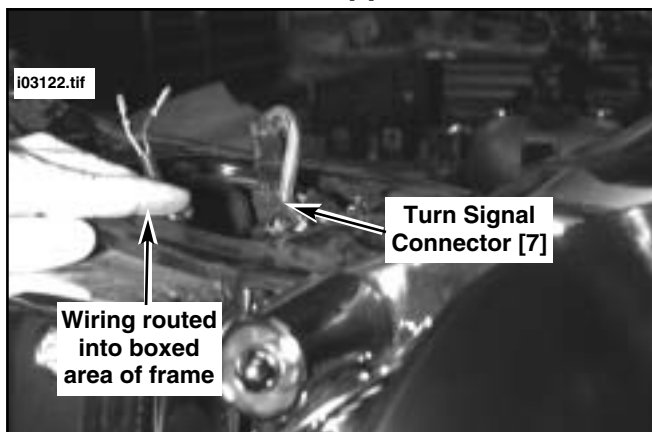

Figure 12. Route Wiring to Connector [7]
23. See Figure 12. Continue routing wiring harness under front of strut in front of fender and through middle boxed area of frame to Connector [7].